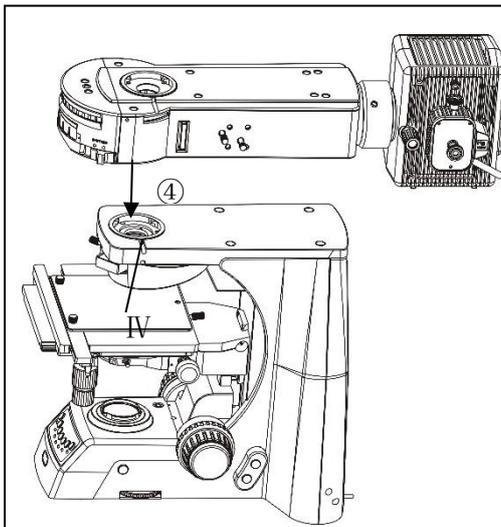

Fig.5
Insert the slit into the dovetail groove of the microscope as shown by Num③ in figure 5 and push it to the bottom, then tighten the screw of III with universal wrench to fasten.
4-2-4 Metallographic device installation (Fig.5)
The metallographic device shall be inserted into the head of the microscope body in accordance with the serial number in figure 5 and transferred to the appropriate position, then tighten the screw with hexagon wrench to fasten.